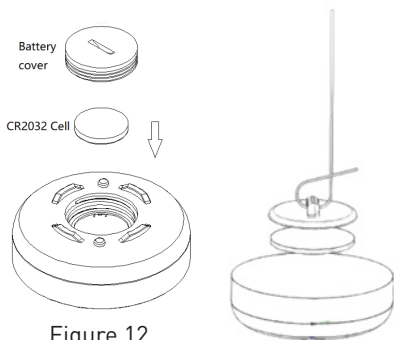

Figure 12
- 1) Install a CR2032 battery into the Water Sensor (as in Figure 12) and automatically pair it with the Central Controller for connection.